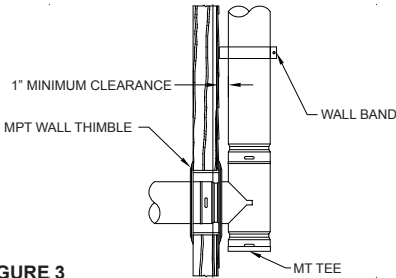

FIGURE 3
- Although it is not a preferred practice, there may be installations where B-Vent must run vertically-external to the building-and wall support is needed. A wall band (MH) or (MWB) is used by placing around the B-Vent, then fastening to the wall. Using a wall band assures that the clearance to combustibles is maintained (See **FIGURE 3**).